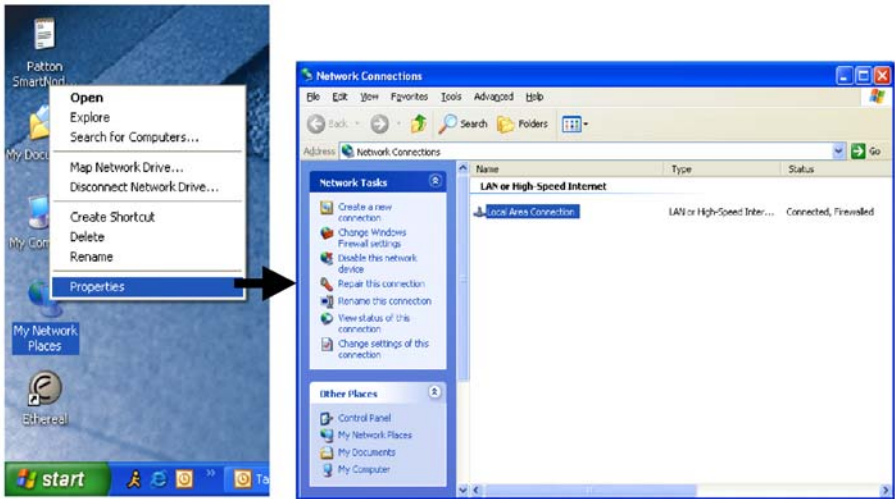

Figure 1. Displaying the Network Connections window
1. Right-click on *My Network Places* and select *Properties* in the context menu (see figure 1).